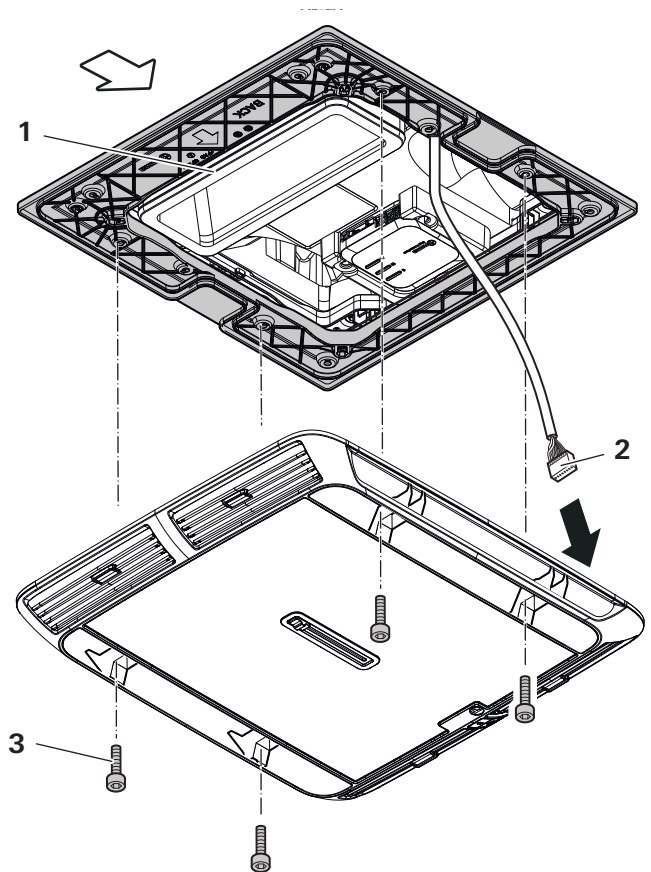

Fig. 26
- Screw the air distributor to the mounting frame, using 4 screws (Fig. 26-3) (supplied) (Fig. 26). Tighten the screws with a torque of 2 Nm.